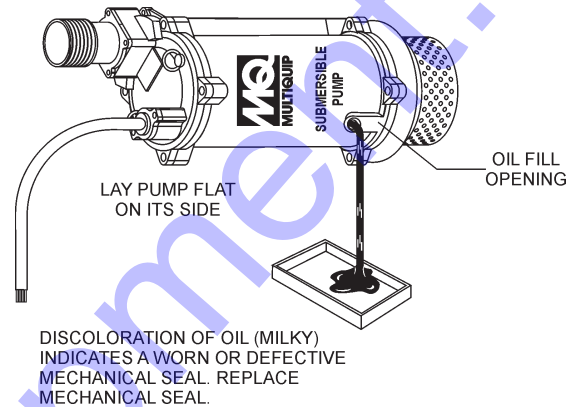

Figure 18. Lubrication Oil Inspection
1. Block the oil fill opening with a finger and roll pump to one side to drain (Figure 18) oil into a small transparent container.
1. Remove oil plug (item 193) and o-ring (item 194). Drain oil from oil chamber as referenced in Figure 18.
2. Remove suction strainer/ring stand (item 84A).
3. Remove the six suction cover bolts and washers (items 188A/188B) that secure the suction cover (item 189) to the pump housing (item 50). Remove suction cover (item 189).
4. Remove impeller cap nut (item 188) and washer (item 66) from motor shaft.
5. Remove impeller (item 49), gap washer (item 49A) and impeller key (item 9A) from motor shaft.